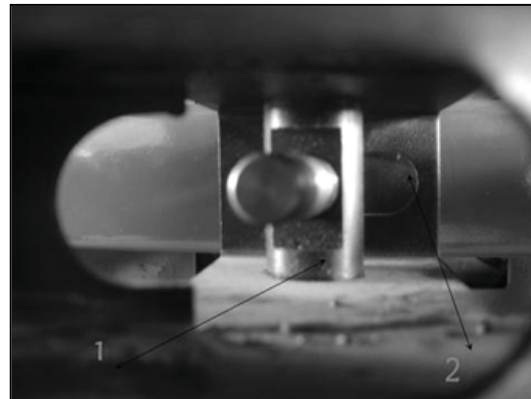

Fig. 10
3.2.5 Position the bead breaking Arm Shaft Bushing into the bead breaking Support Plate on the body (Fig. 9-1) to align the hole and install the bead breaking bolt (Fig. 9-2) and assemble the nut to lock (Fig. 8-4). Insert the piston rod (Fig.10-2) through the hole of the bead breaking slide bushing (Fig. 10-1). The surface of the slide bushing should be facing outwards (Fig. 10). Assemble the removed nut (Fig. 8-1) into the front end of the piston rod. The distance from the edge of the bead breaking blade to the bead breaker's rubber pad is 1-3/16" to 1-1/2" (30-40mm) as shown in Fig.11. Install the return spring (Fig. 9-3)